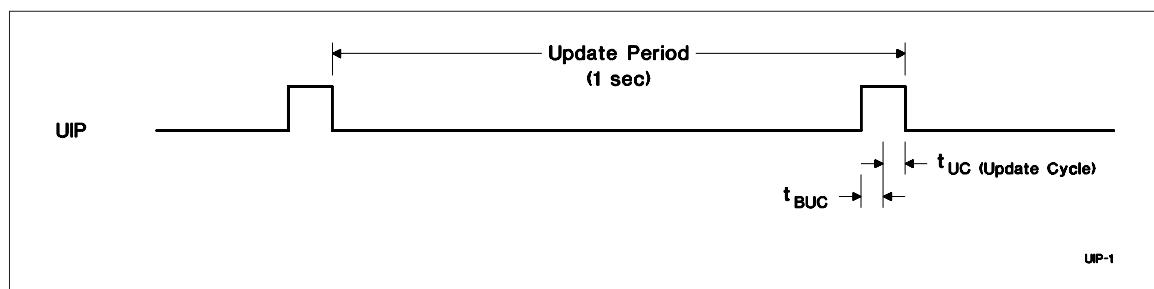

Figure 2. Update Period Timing and UIP
The update period for the bq3285E/L is one second. The bq3285E/L updates the contents of the clock and calendar locations during the update cycle at the end of each update period (see Figure 2). The alarm flag bit may also be set during the update cycle.
The update-in-progress bit (UIP) in register A is set t_{BUC} time before the beginning of an update cycle (see Figure 2). This bit is cleared and the update-complete flag (UF) is set at the end of the update cycle.